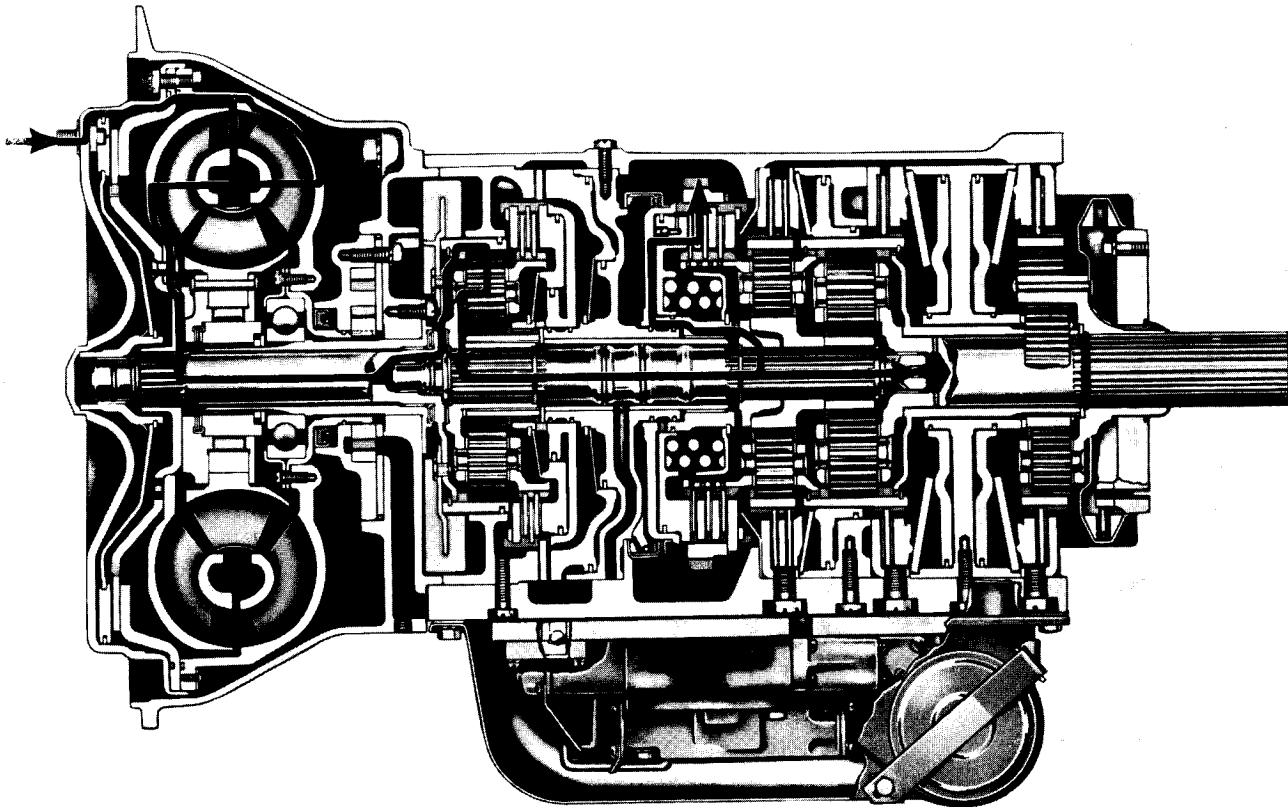

Fig. III-13 Neutral power flow, converter
The smooth flow of power from the engine through the transmission is continuous. The transmission automatically adjusts the ratio and torque to meet changing road and load conditions. Figures III-13 through III-21 illustrate the power flow, or torque path, through the transmission for neutral, each of the six speeds forward, reverse, and retarder operation. Refer to foldout 1 in the back of the manual for identification of components.
46. NEUTRAL POWER FLOW (fig. III-13)